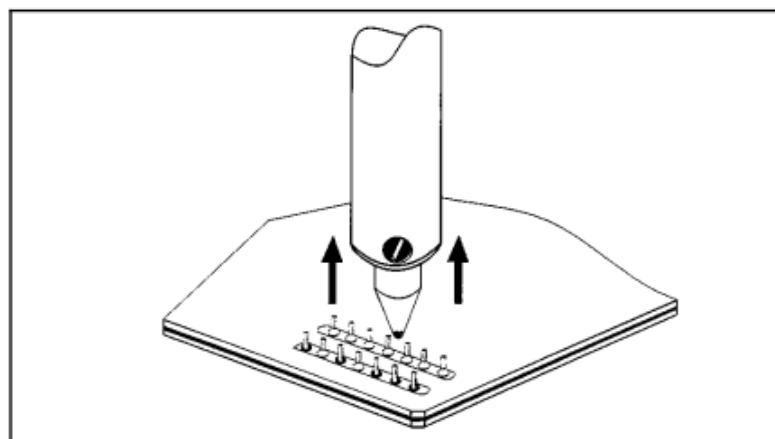

Figure 6 Lift Handpiece
- i) Lift tip from lead, hold vacuum for an additional 3 seconds to clear all molten solder from heater chamber. (See Figure 6.)